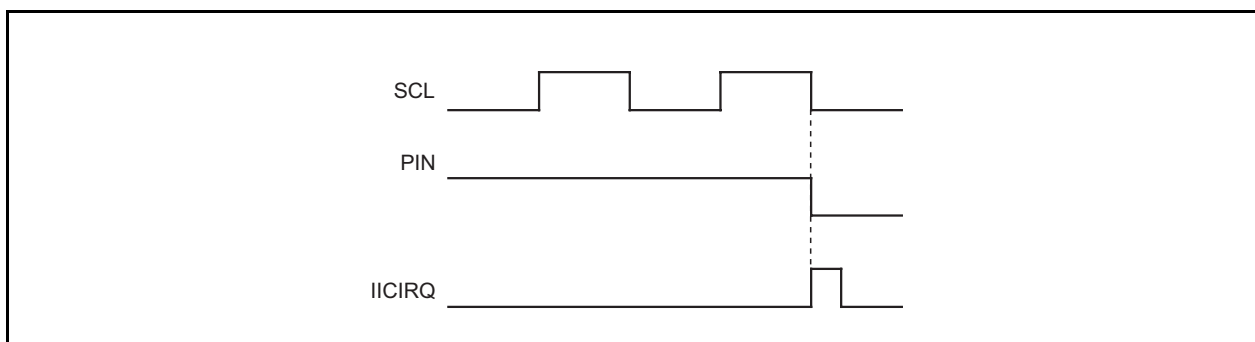

Figure 11.9 Interrupt request signal generation timing
This bit generates an interrupt request signal. Each time 1-byte data is transmitted, the state of the PIN bit changes from “1” to “0.” At the same time, an interrupt request signal is sent to the CPU. The PIN bit is set to “0” in synchronization with a falling edge of the last clock (including the ACK clock) of an internal clock and an interrupt request signal occurs in synchronization with a falling edge of the PIN bit. When detecting the STOP condition in slave, the multi-master I²C-BUS interface interrupt request bit (IR) is set to “1” (interrupt requested) regardless of falling of PIN bit. When the PIN bit is “0,” the SCL is kept in the “0” state and clock generation is disabled. Figure 11.9 shows an interrupt request signal generating timing chart.